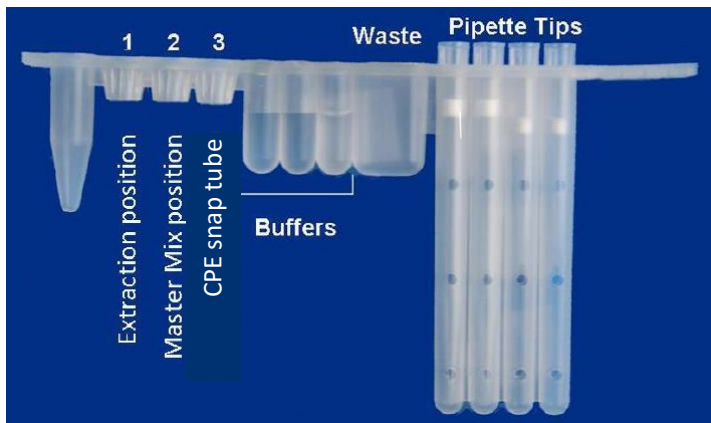

Figure 1: DNA Unitized Reagent Strip setup.
- 2.2.a. Snap a DNA extraction BD Exk-1 Reagent tube (white seal) into position 1 of the DNA Strip, see Figure 1.
- 2.2.b. Snap a DNA MMK Master Mix tube (green/yellow seal) into position 2 of the DNA Strip, see Figure 1.
- 2.2.c. Snap a CPE reagent tube (blue/purple seal) into position 3 of the DNA Strip, see Figure 1.